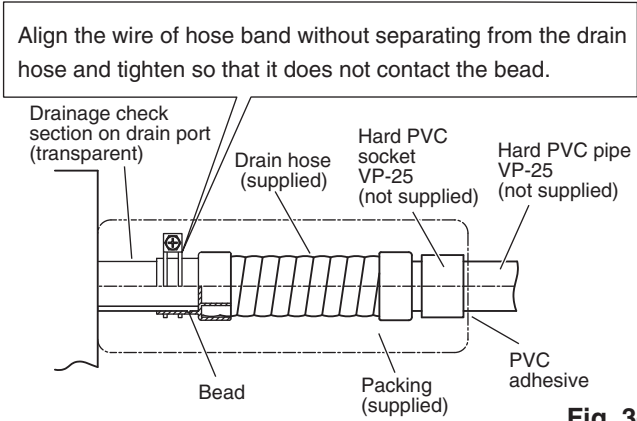

Fig. 3-8
- (1) Prepare standard hard PVC pipe (O.D. 1-17/64" (O.D. 32 mm)) for the drain and use the supplied hose band to prevent water leaks. The PVC pipe must be purchased separately. The transparent drain part on the unit allows you to check drainage. (Fig. 3-8)
- **Tighten the hose clamps so their locking nuts face upward. (Fig. 3-8)**